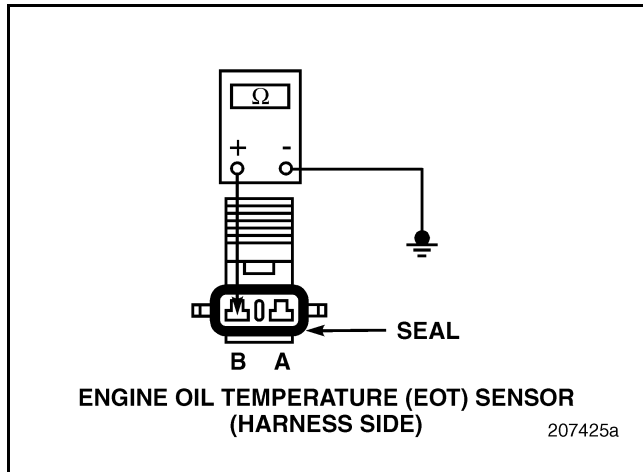

Figure 291
4. Check for continuity between pin B of the EOT Sensor harness connector and a good ground (see Figure 291).